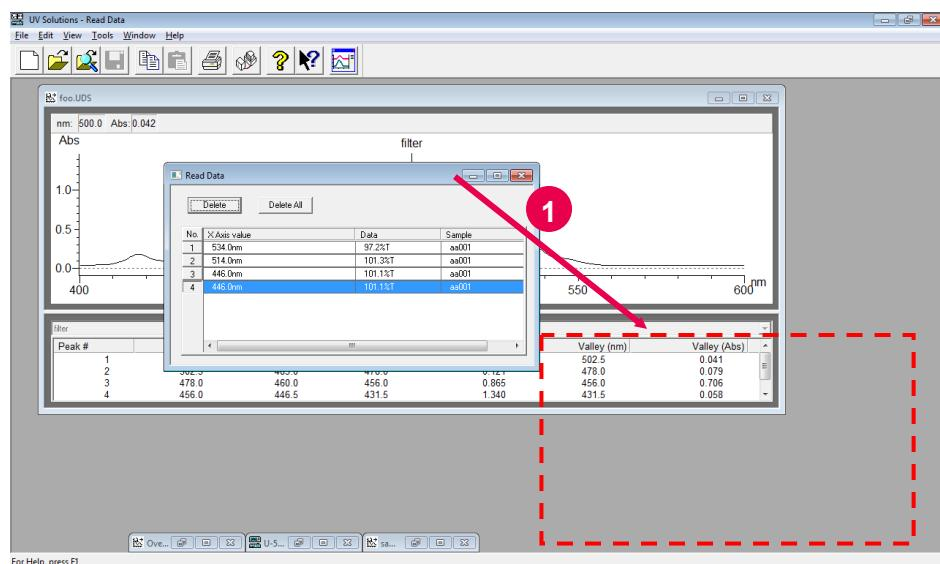

Fig. 5-58
- (1) Open a data file (refer to 5.1).
- (2) Select the Read Data command from the Tools menu.
- (3) The Read Data box will appear as shown in Fig. 5-58. Drag the title area (blue) at the top of the box to the lower right (refer to (1) in Fig. 5-58.)